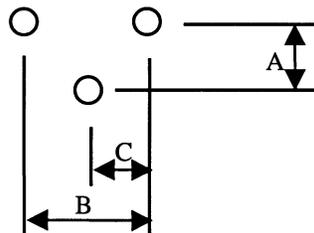
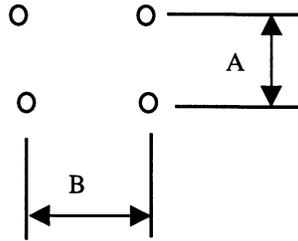

FIGURE 1—MOUNTING PATTERN
FIGURE 2—MOUNTING PATTERN
4.4.2 MOUNTING—The air dryer mounting should conform to Figure 1 or Figure 2 and Table 2: